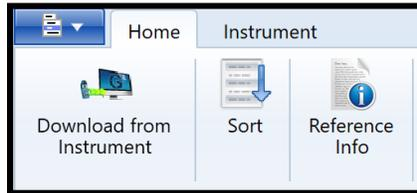

Figure 40
- 1) Clicking the **"SORT"** button in Data Window's Home Menu (Figure 40).